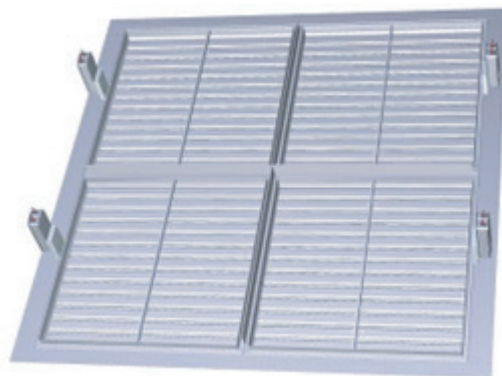

Fig 1
1. Configure the damper on a level surface ensuring that the damper sections with the cleats are positioned at the top and all inner cases meet without obstruction – Fig 1.